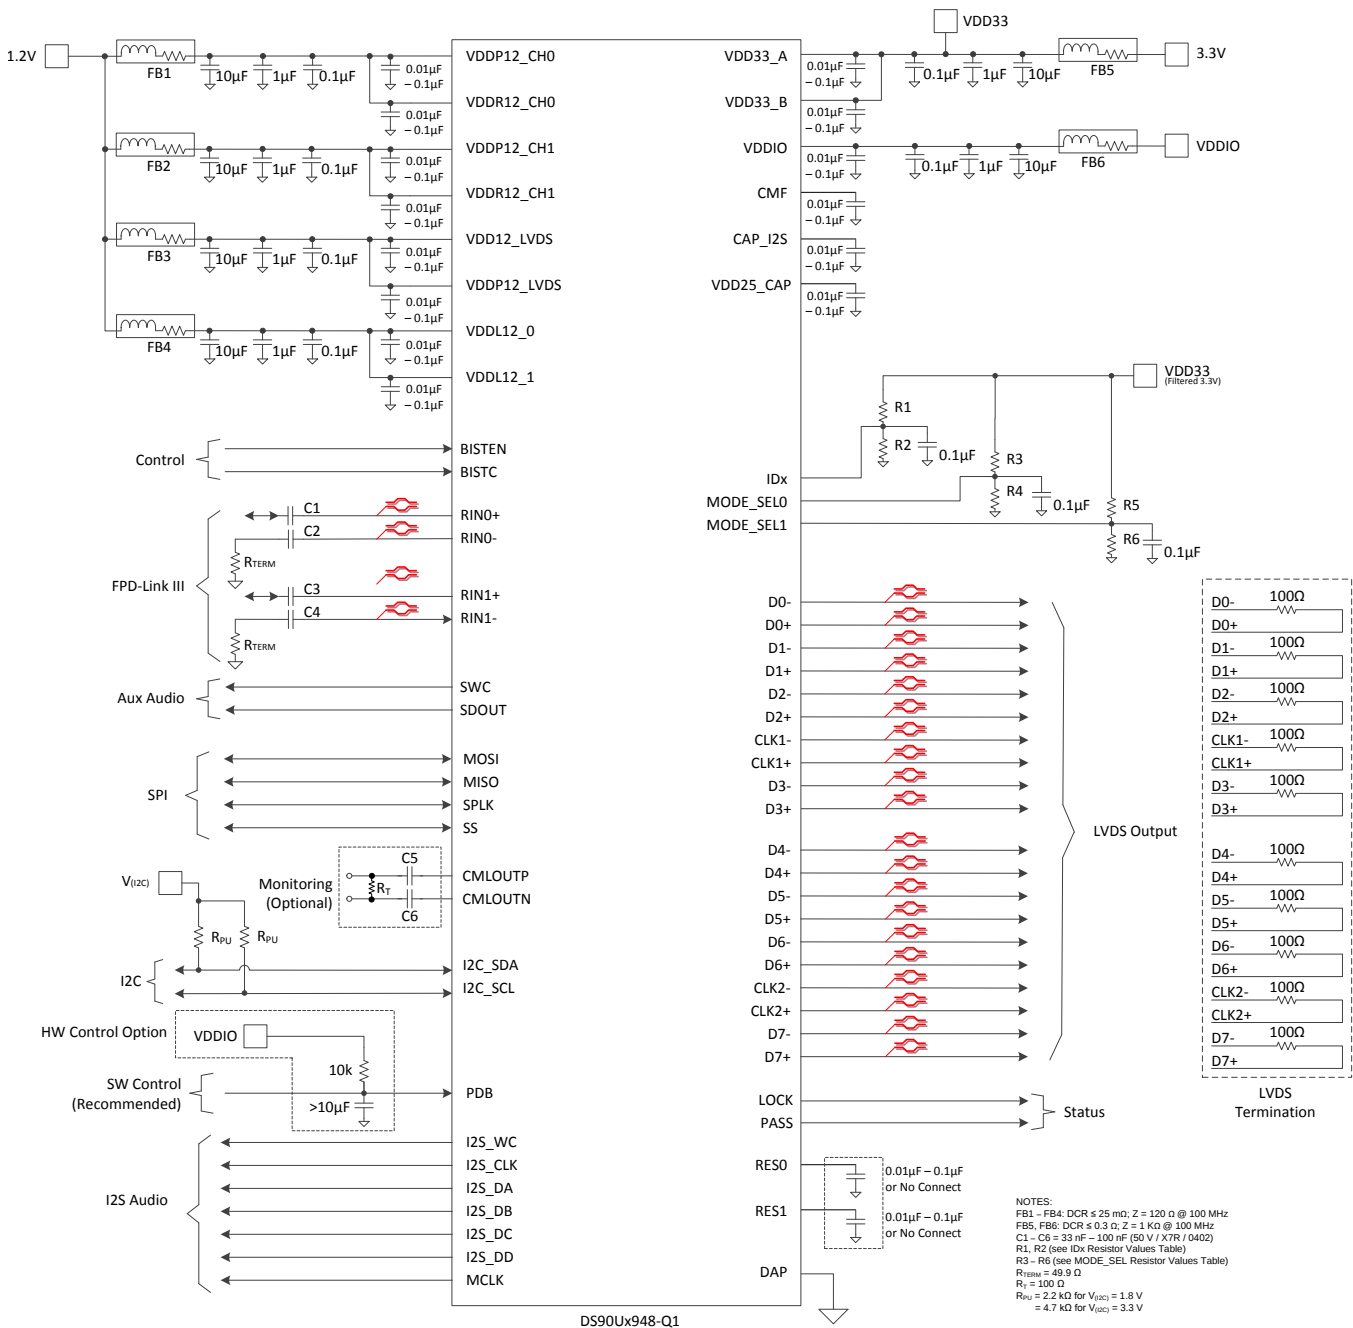
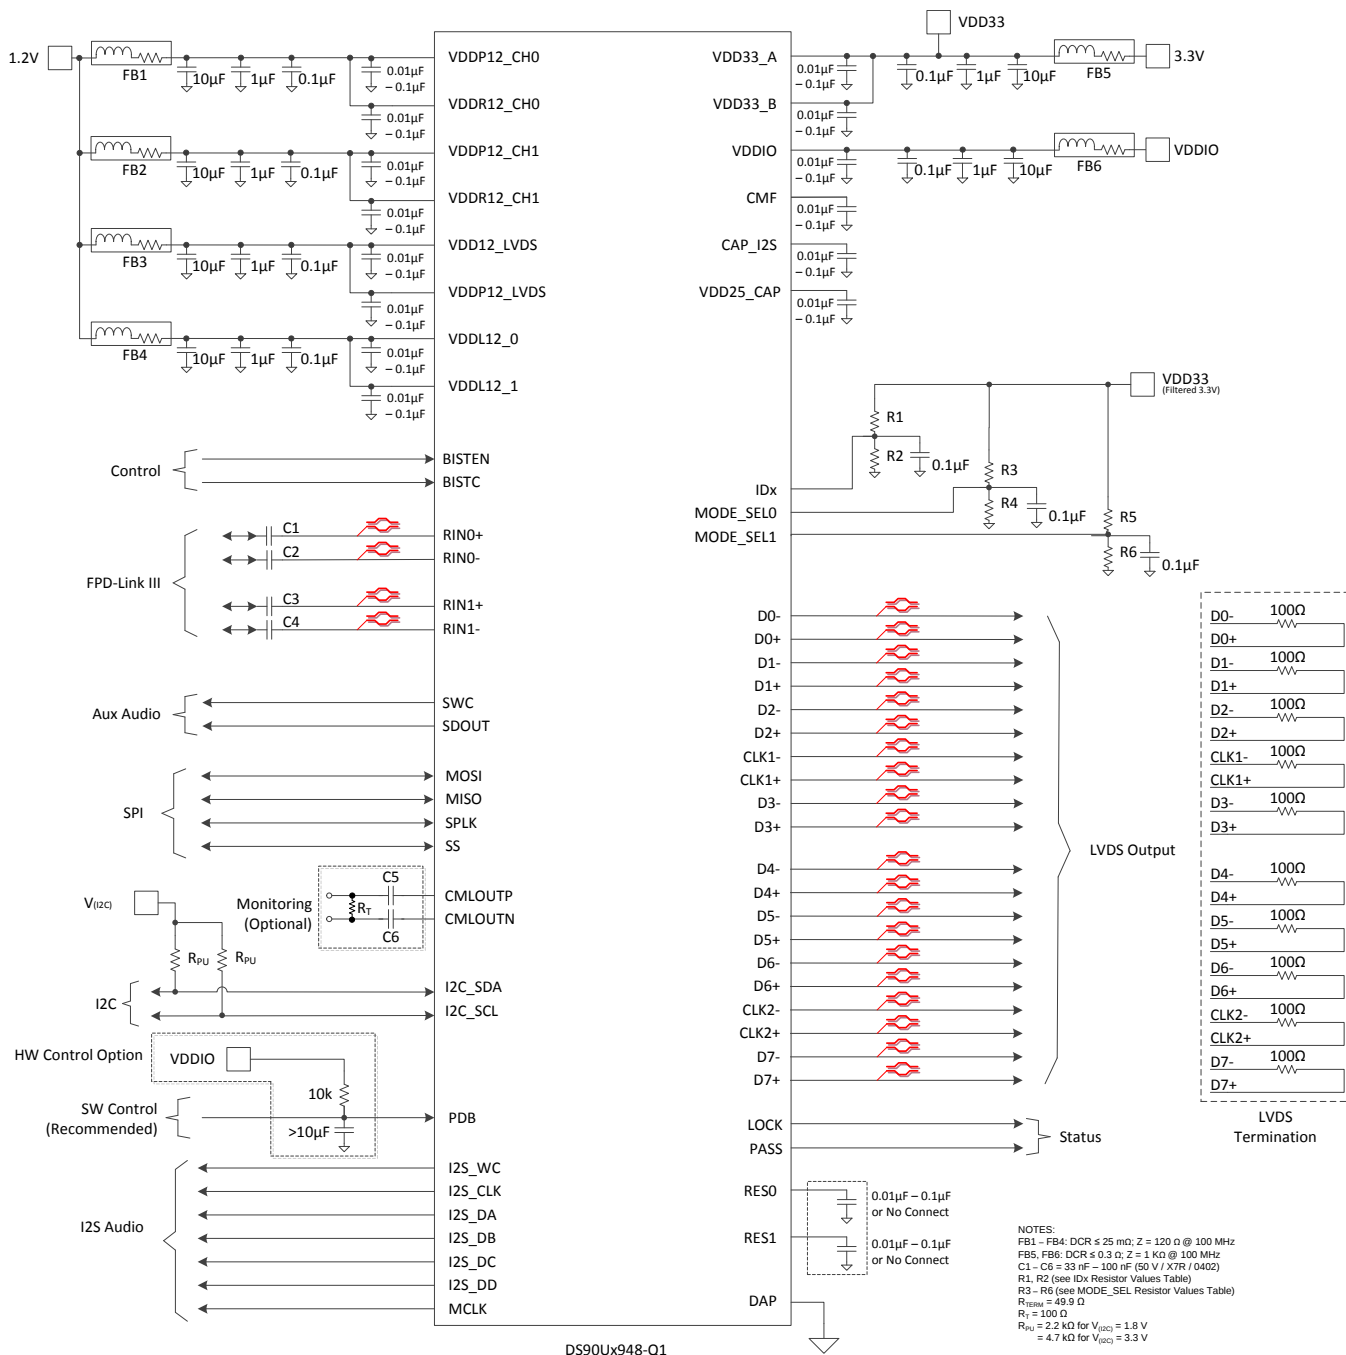

图 47. Typical Connection Diagram (Coax)
图 48. Typical Connection Diagram (STP)
Bypass capacitors must be placed near the power supply pins. At a minimum, use four (4) 10-μF capacitors for local device bypassing. Ferrite beads are placed on the two sets of supply pins (VDD33 and VDDIO) for effective noise suppression. The interface to the graphics source is LVDS. The VDDIO pins may be connected to 3.3 V or 1.8 V. A capacitor and resistor are placed on the PDB pin to delay the enabling of the device until power is stable. See 图 47 for a typical STP connection diagram and 图 48 for a typical coax connection diagram.